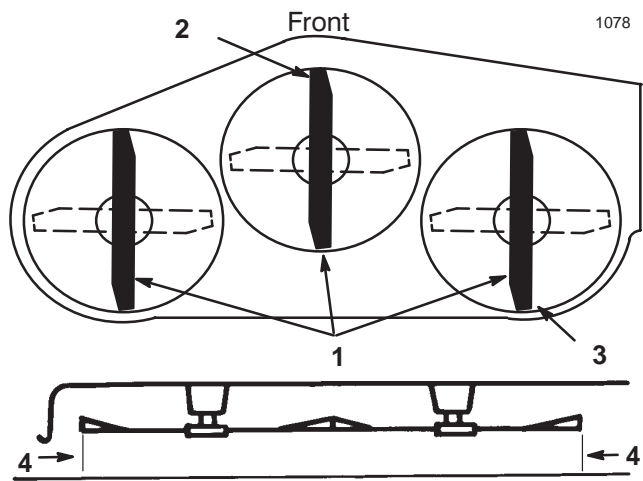

Figure 40
5. Set the height-of-cut at 3 in. (76 mm) and carefully rotate the blades so they are facing front to rear (Fig. 40).
6. Measure between the tip of the front blade (Fig. 40) and the tip of the rear blade to the flat surface. If the front blade tip is not 1/16–5/16 in. (1.6–7.9 mm) lower than the rear blade tip, adjust the front trunnion rods.
9. After adjusting both trunnion rod yokes evenly, secure the yokes with the hairpin cotters. Check the front-to-rear level again. Continue adjusting the yokes until the front blade tip is 1/16–5/16 in. (1.6–7.9 mm) lower than the rear blade tip (Fig. 40).